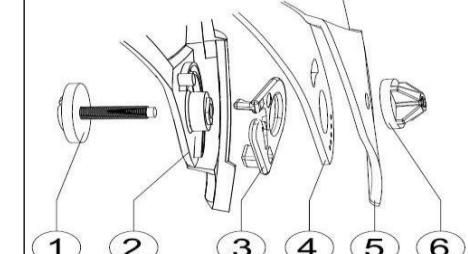

Fig. 1
1. Unscrew the screws (fig. 1, point 1 and 6) on the sides.
2. Remove the front-plate (fig. 1, point 5), having care to remove the central part from its support.
3. Remove the visor (figure 1, point 4).
4. Remove the On/Off stopper (fig. 1, point 3).
5. Remove the part of the helmet (fig. 1, point 2).
1. Position the screw in the special housing found in the shell (Fig. 1 point 1)
2. Insert the On/Off stopper (Fig. 1 point 3)
3. Insert the visor (Fig. 1 point 4)
4. Position the mask (Fig. 1 point 6)
5. Lightly tighten the screw (Fig. 1 point 1 and 6)